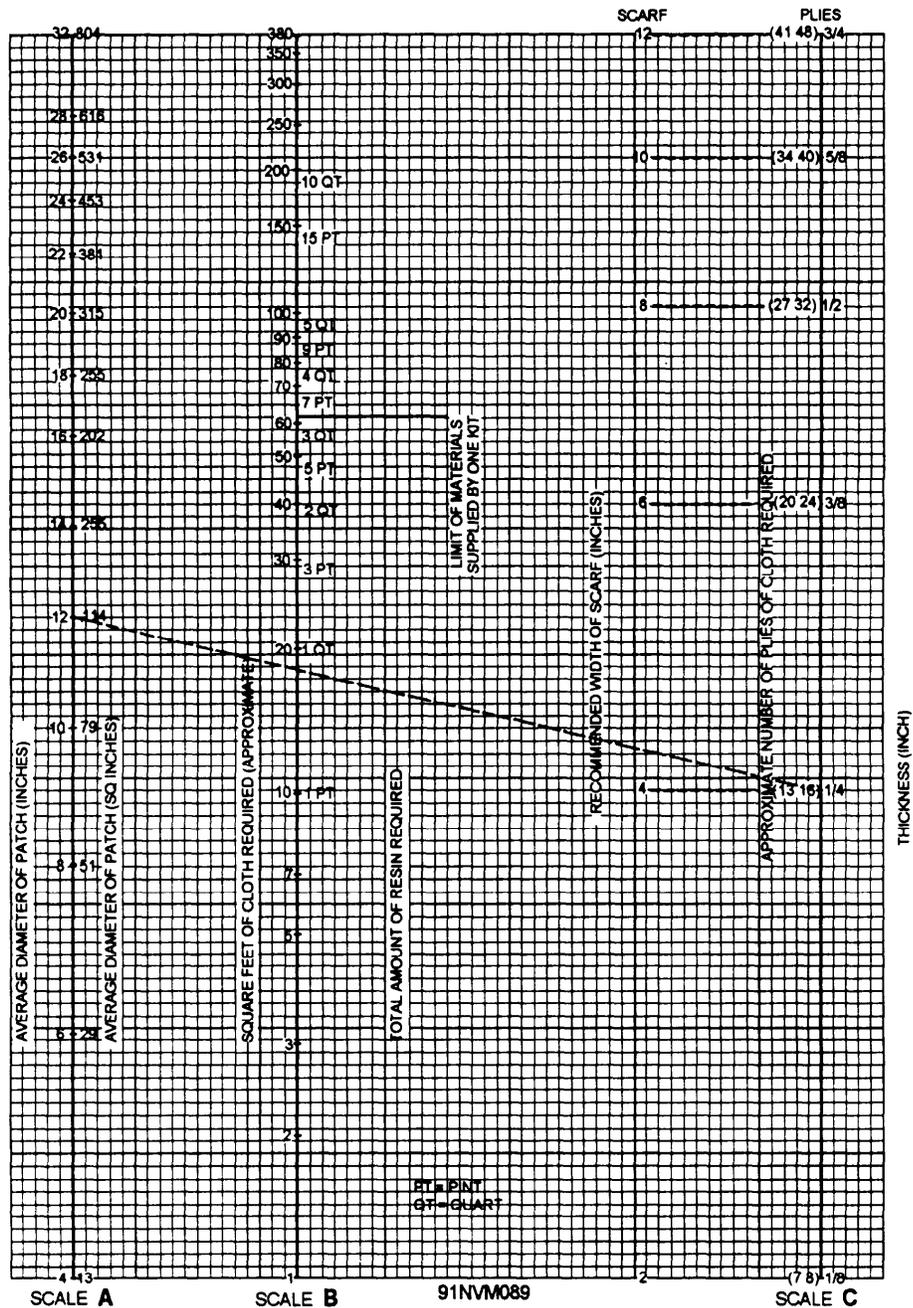

Figure 4-9.—Estimating materials.
laminates up to three-fourths of an inch thick can be obtained from figure 4-9.
Turn to the nomogram (fig. 4-9) to obtain an estimate of the materials required. Draw a straight line between scale A (average diameter and/or average area) on the left side and scale B (thickness) on the right side. Where this line intersects scale C, read the approximate amounts of cloth and resin required. Note that the estimate exceeds the actual requirement by 30 to 40 percent, particularly with respect to cloth, to allow for wastage. Select from the kit the number and size of cans of resins and hardener required. To avoid waste, open and mix the cans as they are needed.
To illustrate the use of the nomogram, assume that a repair is to be made to an 8-inch diameter hole in a 1/4-inch thick laminate. Looking at scale B, the recommended width of the scarf is 4 inches, and the approximate number of plies of style #1000 glass cloth is 13 to 16. The average diameter will be 8 inches + 4 inches (fig. 4-9) = 12 inches. Drawing a line between 12 inches on scale A and 1/4 inch on scale B (see dotted line in fig. 4-9), approximately 18 square feet of style #1000 glass cloth and 1 quart of resin are required. (As mentioned previously, the materials estimate may be 30 to 40 percent in excess of the actual requirement.)
**TAILORING THE REINFORCEMENT MATERIAL.**—To cut the glass reinforcement to fit the repair, prepare paper templates for the innermost ply that are slightly larger than the hole, and for the outermost ply to barely overlap the scarfed area. Each of the intermediate plies should be cut proportionally larger than the preceding smaller ply. (See fig. 4-9 for the approximate number of plies required for a given thickness.) If the patch is being made from both sides, two sets of plies should be tailored as described, one for each side.
**PREPARING THE RESIN SYSTEM.**—The resin and hardener in the repair kit has been preweighed and packaged in the proper proportions for mixing. If the temperature is much above 70°F, bring the resin temperature down to about 70°F, as higher temperatures will shorten the working life of the resin. Conversely, if the temperature is low, it is advisable to keep the resin indoors until used. Prior to opening the containers, clean and dry them thoroughly so that no moisture or foreign matter will get into them. NEVER mix the hardener with the resin until the preceding steps have been accomplished. The amount of resin needed for the patch may be estimated from figure 4-9.